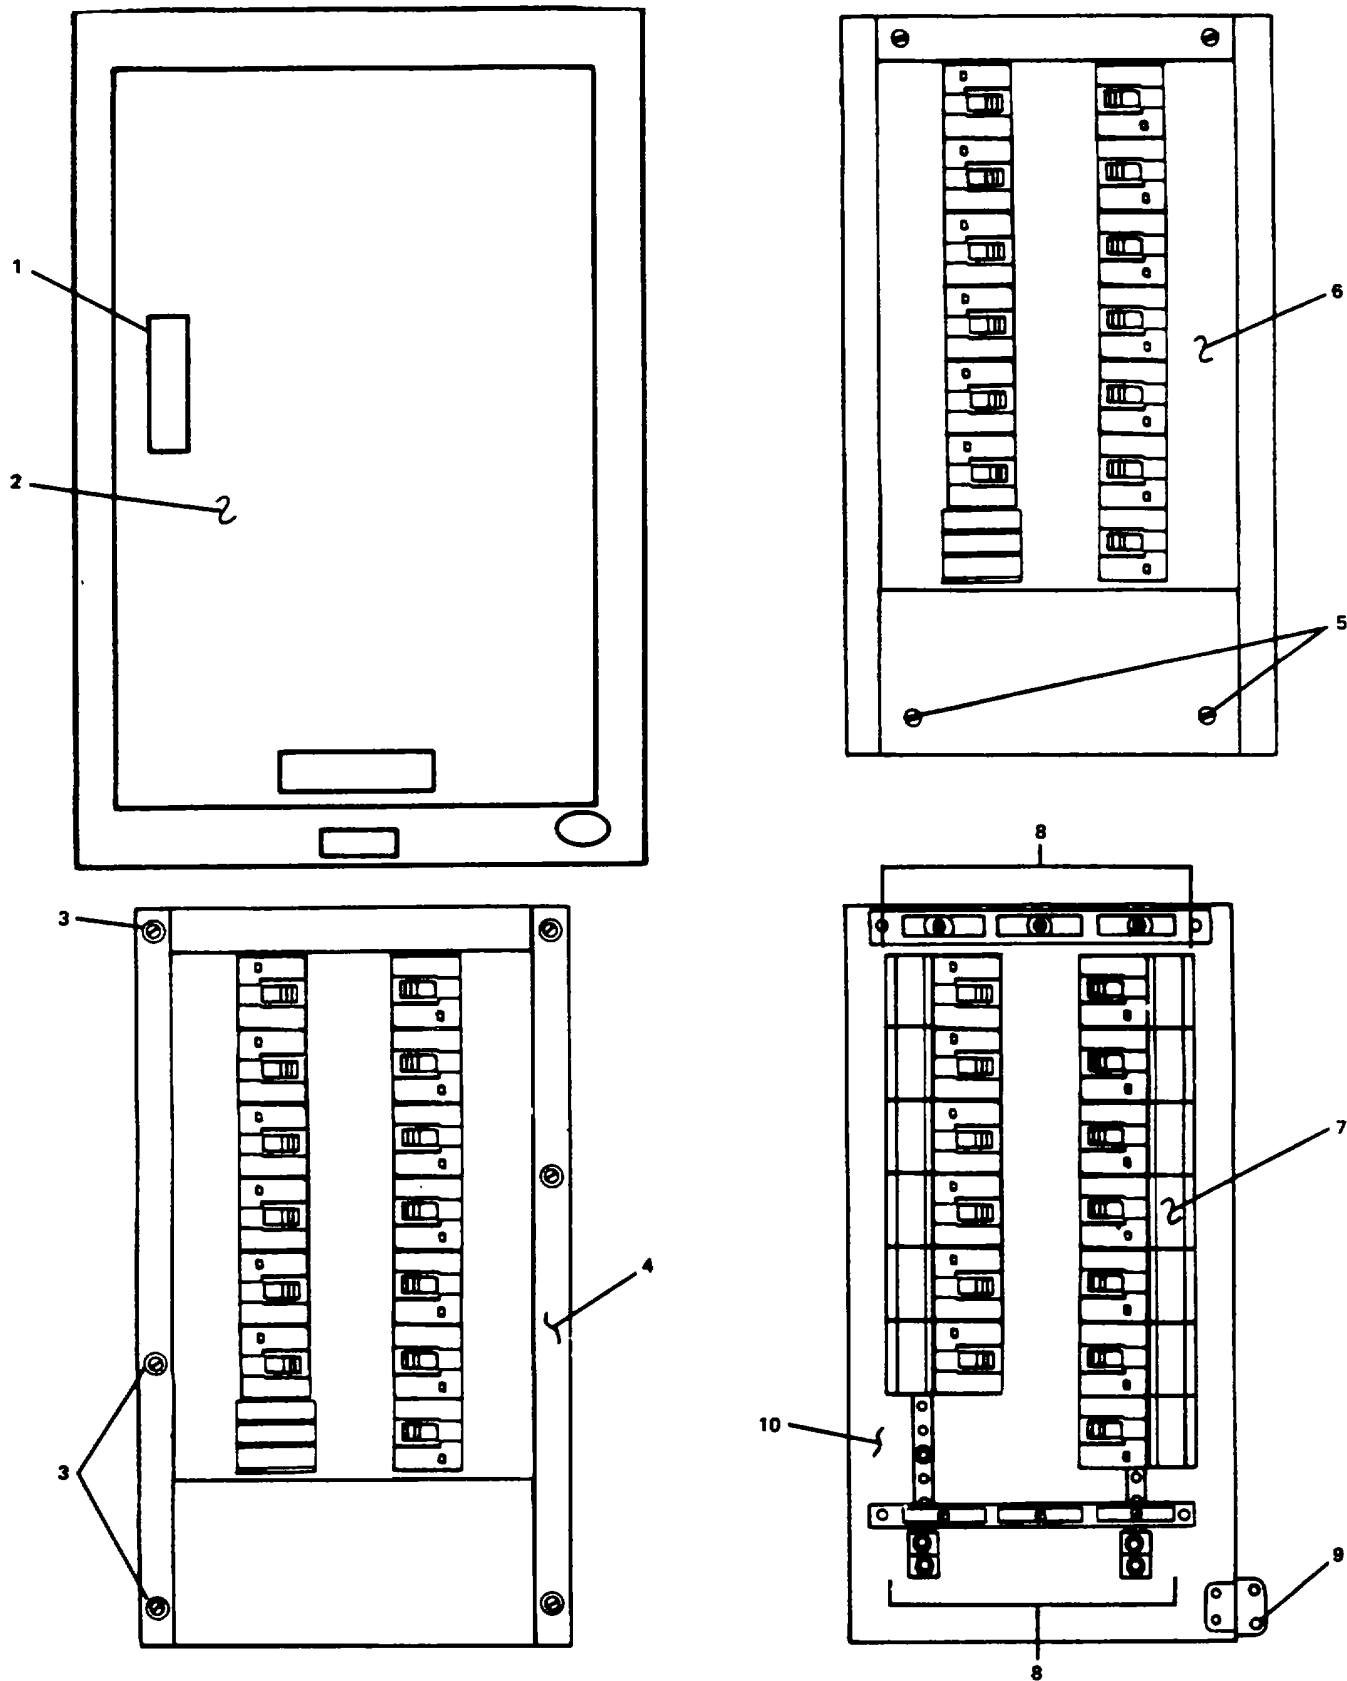

Figure 2-56. Replace Power Distribution Panel (Typical).
a. Press key latch (1, Figure 2-56) and open door (2).
b. Loosen six screws (3) and remove face panel (4) and door (2).
c. Remove four screws (5) from inner-face panel (6). Remove panel.
d. Tag and disconnect electrical wiring to circuit breakers (7) and bus bars (8).